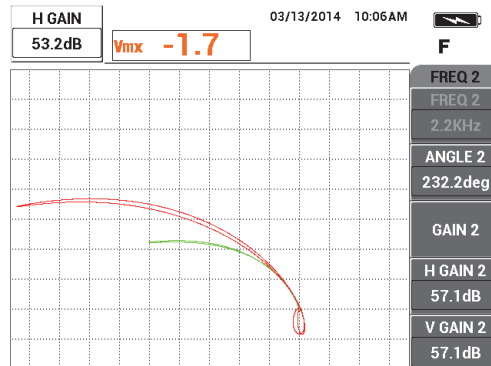

Figure 5-123 Adjusting the horizontal amplitude of the frequency 1 signal
- Press the GAIN key (**dB**) twice, and then decrease the horizontal amplitude of the frequency 1 signal (green) until it extends exactly 5 divisions to the left of the null point (see Figure 5-123 on page 214).